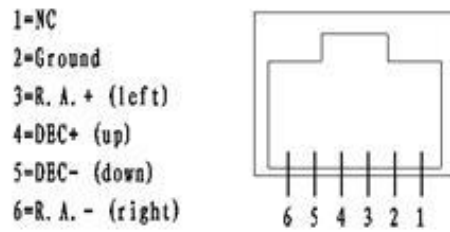

Figure 3. ST-4 Compatible Guiding Port Wiring
- GUIDE: ST-4 compatible autoguiding port. The wiring is shown in Figure 3